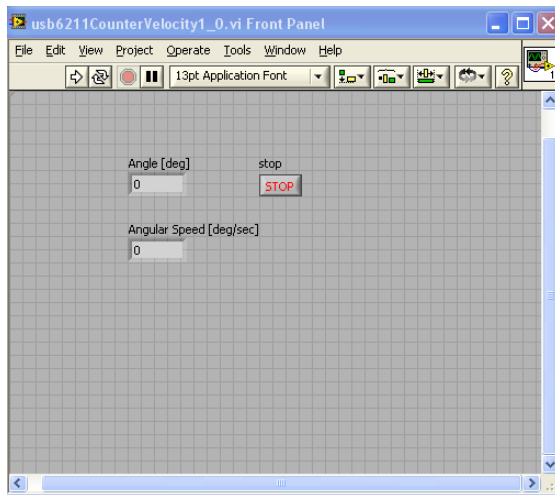
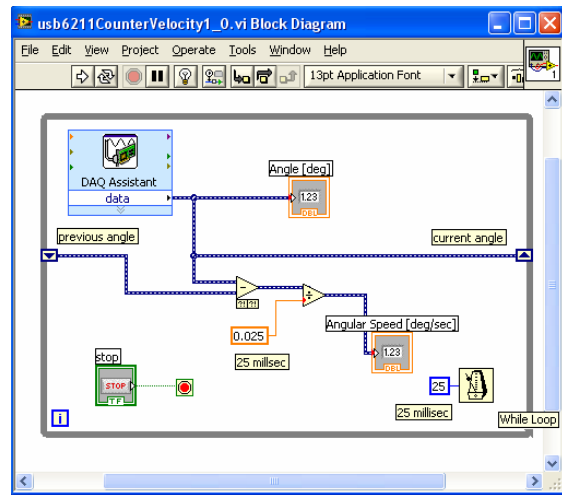

Figure 2-1A: Two numeric indicators
Figure 2-1B: Block diagram displays voltage
**Figure 2-1A** shows that two Numeric Indicators are used to display the angle in degrees and angular velocity in degrees per second. The block diagram in **Figure 2-1B** is wired up accordingly.